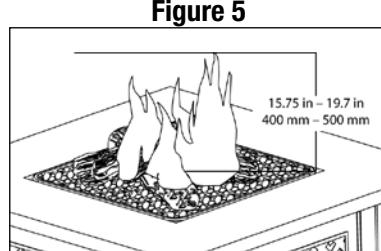

Figure 5
13. After lighting, observe the burner flame, make sure all burner ports are lit and flame height matches illustration. (Figure 5)